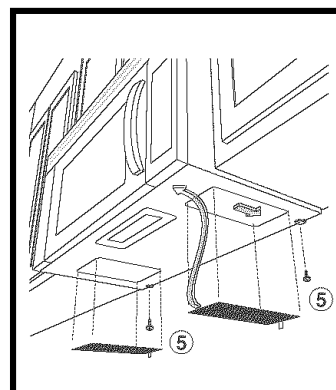

Figure 24
2. Use two Tapping Screws (5) to secure the levers that are on the bottom of the oven. See Figure 24.